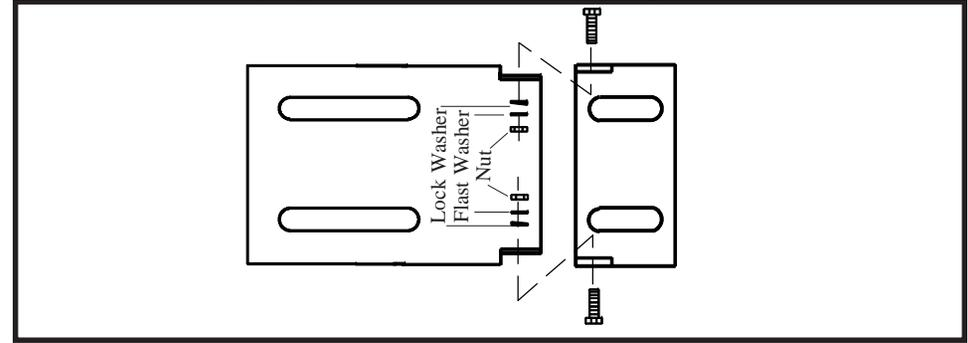

Figure 3
- 2) Assemble mounting bracket as shown figure 3, adjust for proper angle and tighten.